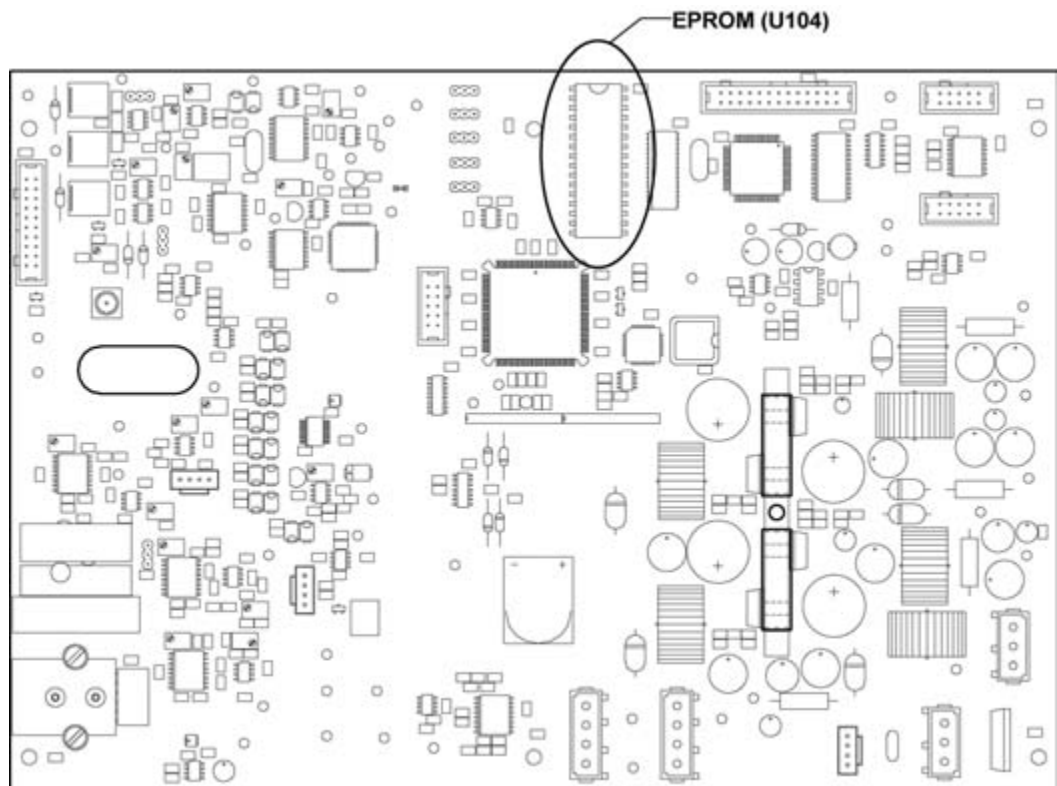

Figure 6-10
7. Locate the EPROM socket on the main pc-board attached to the front panel of the instrument and refer to Figure 6-10.